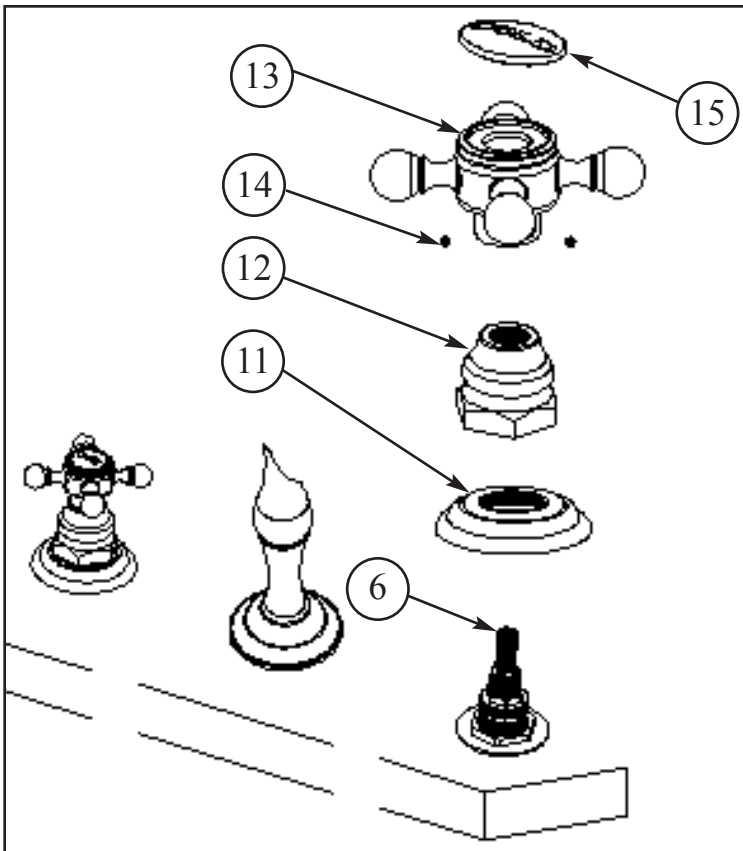

Figure 3
- Turn VALVE STEM (6) to off position. Attach ESCUTCHEON (11) BONNET (12) and HANDLE (13). Any adjustments for rotational alignment must be made to the VALVE BODY (6), not to the cartridge. Allow minimum spacing between HANDLE (13) and BONNET (9) to prevent damage to the surface finish. Secure HANDLE (13) into place with SET SCREW (14). Remove adhesive backing from desired BUTTON (15) and place onto HANDLE (13). See Figure 3.
- Secure BASE (17) in place by attaching the MOUNTING KIT (18) to underside of deck. Place SPRAY (16) and HOSE (20) through BASE (17). Tighten HOSE (20) onto DIVERter TEE (2).
- Remove AERATOR (21) from SPOUT (1), turn on water supply, and flush both valves until water is clear. Check for leaks and make any final adjustments required. Re-attach AERATOR (21) to the SPOUT (1).